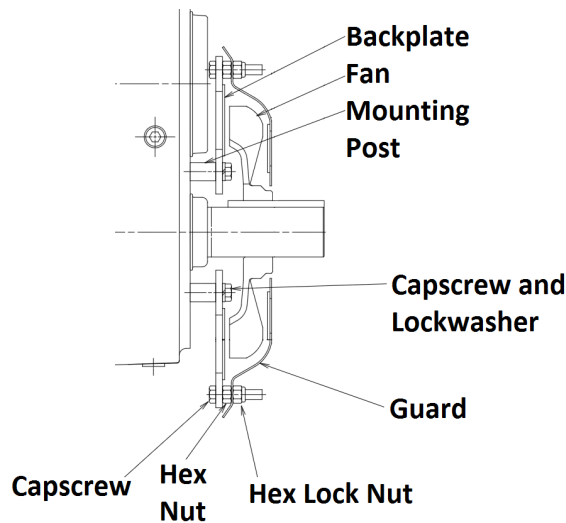

FIGURE 1 SHAFT FAN KIT INSTALLED ON UNIT
The following instructions apply to the installation of the shaft fan kits available for unit sizes 5215J-5315J. Figure 1 shows the general layout of the shaft fan kit installed on the unit.
1. Begin by arranging capscrews and lock washers through the backplate and mounting posts. Refer to Figure 1 for a depiction of the finished assembly. Torque